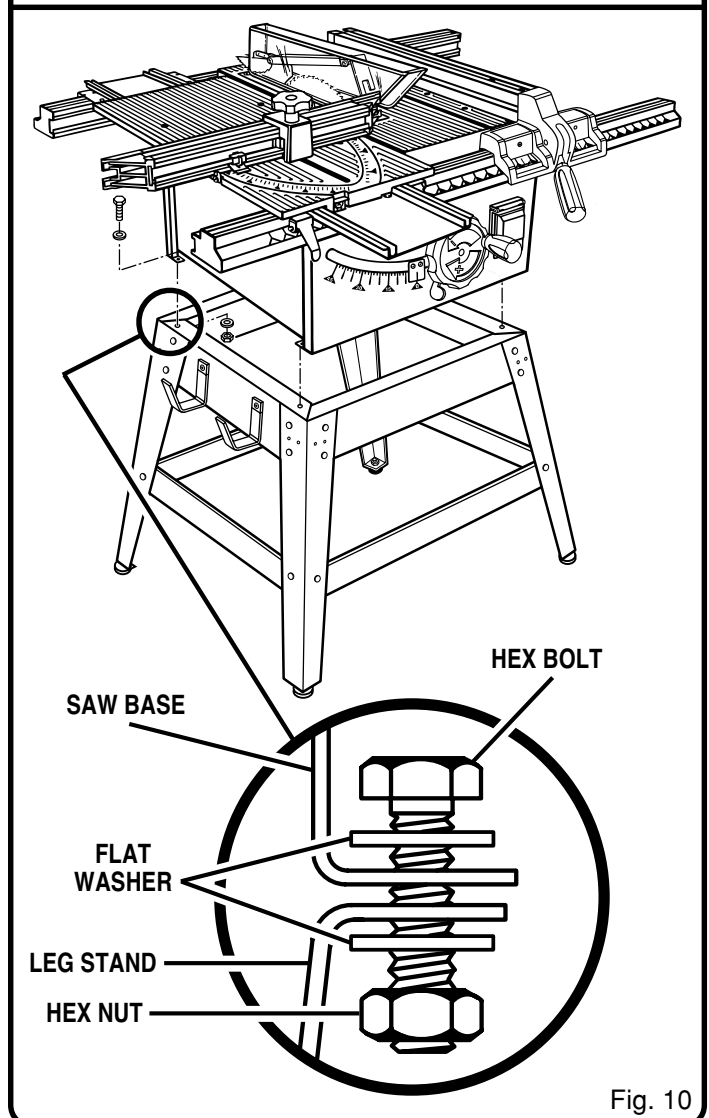

Fig. 10
See Figure 10.
- Place a flat washer on a bolt and insert through hole. Add a flat washer and a hex nut. Hand tighten. See Figure 10.